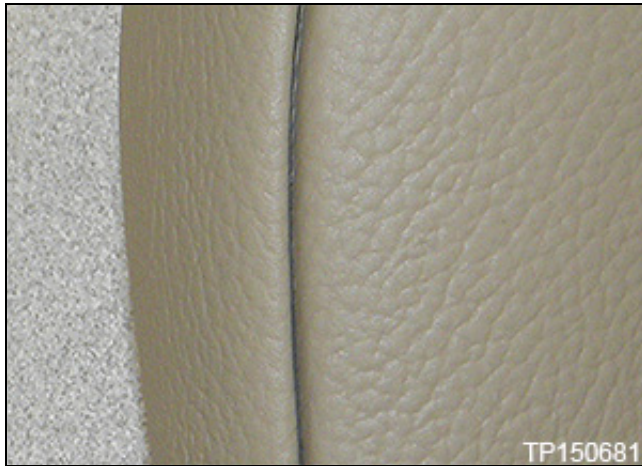

Figure 9
(1) Leather shift selector knob shown in Figure 9.